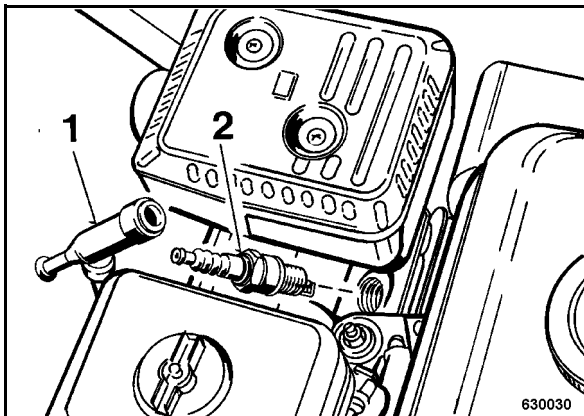

Fig. 37
- Pull off the spark plug socket (1) (Fig. 37) and unscrew the spark plug (2).